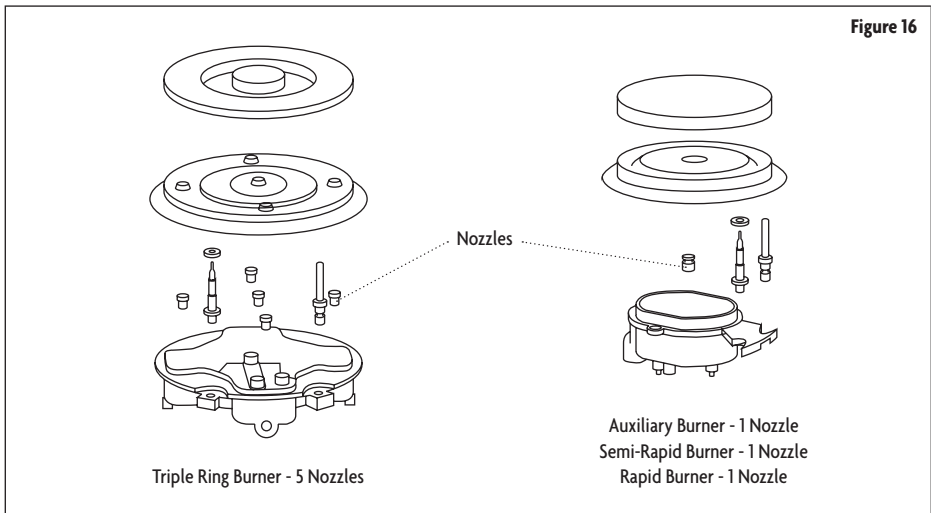

**Figure 15**
4. Remove the retainer pin that is currently positioned for use with Natural Gas. (Refer to Figure 15.)
5. Turn the retainer pin upside down and re-install into regulator cap. (Refer to Figure 15.)
6. Screw the regulator cap back into the regulator and reattach the regulator to the nipple and flare union. (Refer to Figure 15.)